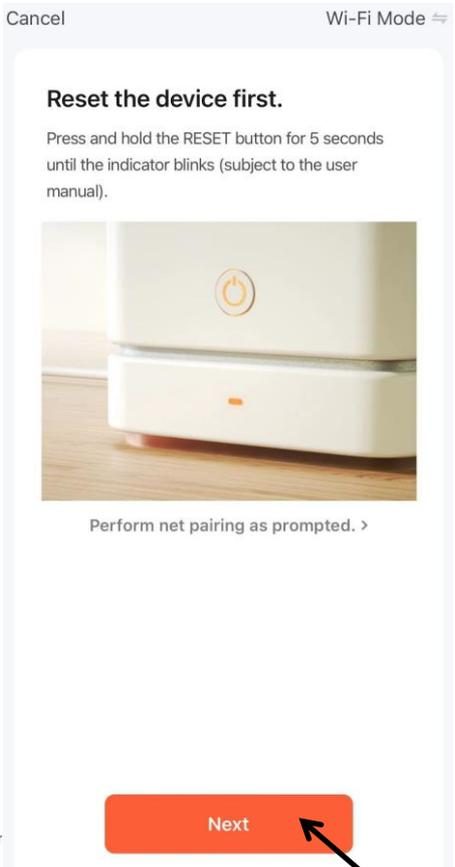
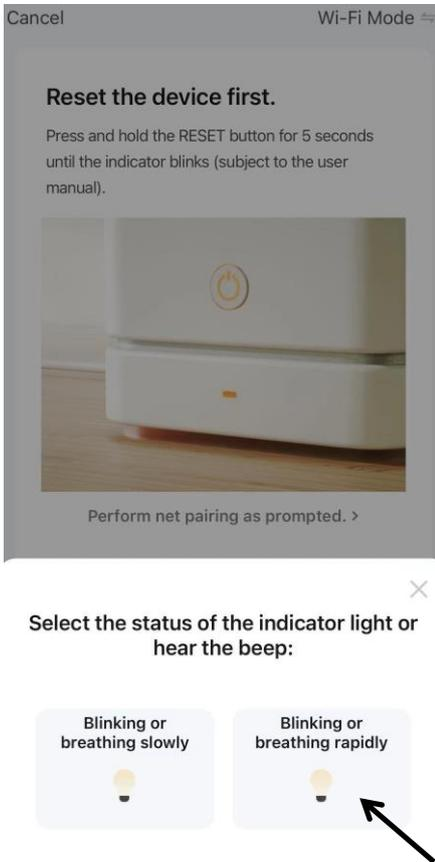

Fig.3
Fig.4
4. Tap "Next" on Fig.3. Continue to tap "Blinking or breathing rapidly" on Fig.4.